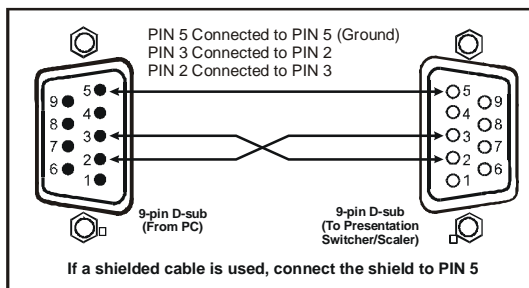

Figure 4: Connecting the PC
- Connect the RS-232 9-pin D-sub port on your PC to the RS-232 9-pin D-sub rear panel port on the **VP-730** unit, forming a cross-connection¹, as Figure 4 illustrates